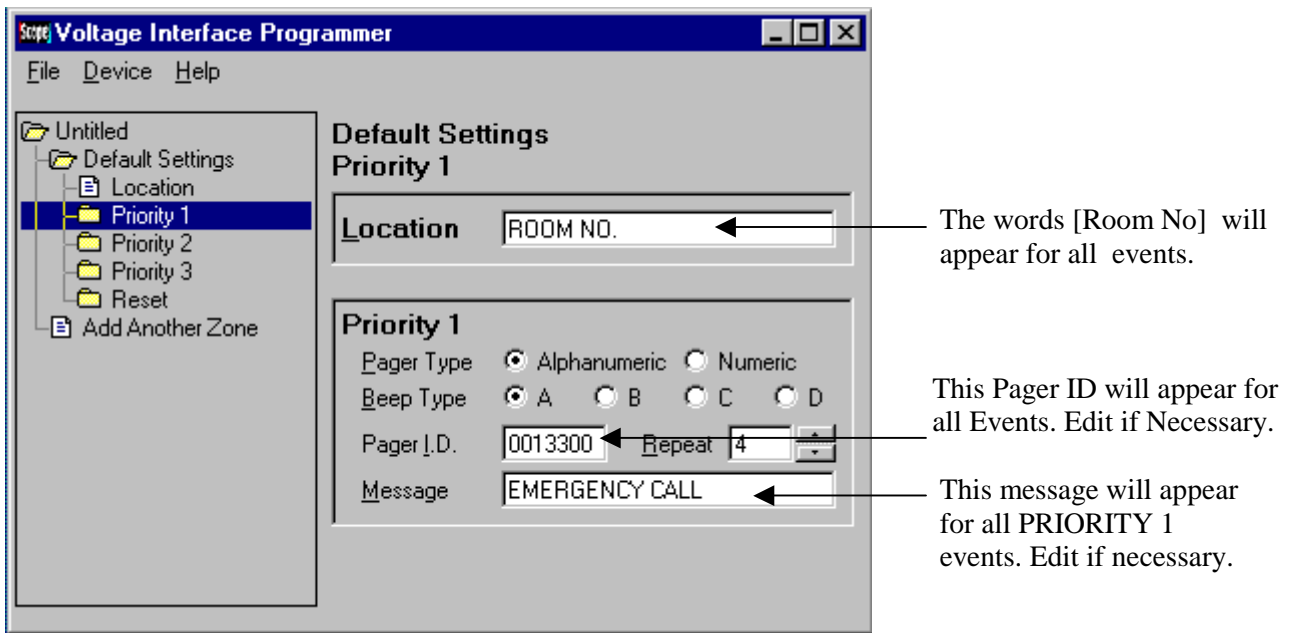

Figure 4
- b. Enter only **COMMON** data.. (see figure 4)